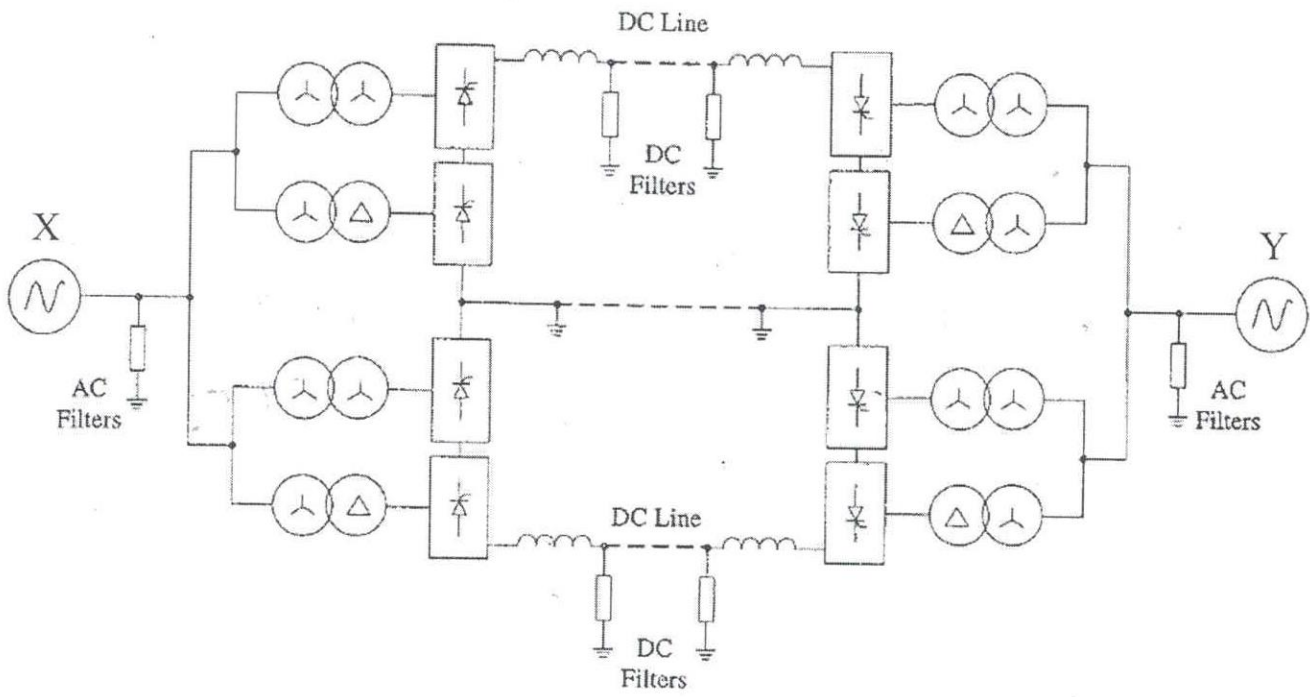

Figure Q2. Bipolar HVDC transmission system.
- b) Figure Q2 shows a bipolar High Voltage DC (HVDC) transmission link which connects two AC grids in India namely X and Y. The rated capacity of this link is 500 MW. The length of the transmission line is 350 km and the resistance of the conductor is 0.06 Ω /km. At a certain loading condition, the total power of 490 MW is transmitted from X side to Y side. At this loading condition, the DC voltage at X side is 505 kV. The AC side line-to-line voltage at X side is 130 kV.